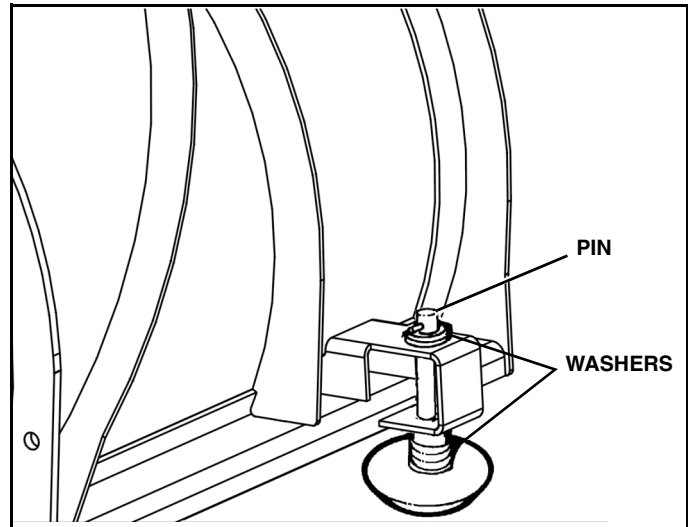

Figure 2-5
5. Adjust shoe assemblies by removing shoe mounting lynch pin and adding or subtracting washers on the top or bottom of the shoe-mounting bracket. (See Figure 2-5).